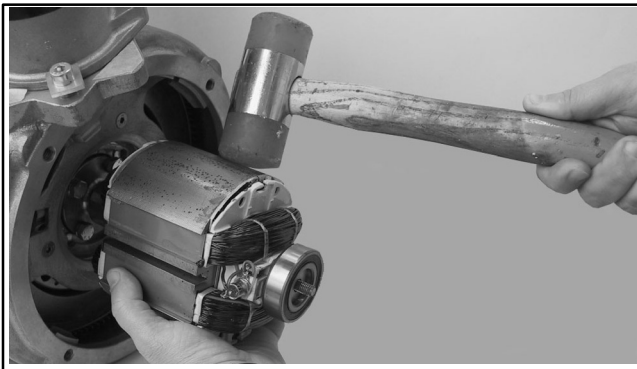

Figure 10-14 Rotor Removal
1. With an uphand hammer, tap the outer surface of the rotor and release the connection between the rotor and the alternator through stud. See Figure 10-14.